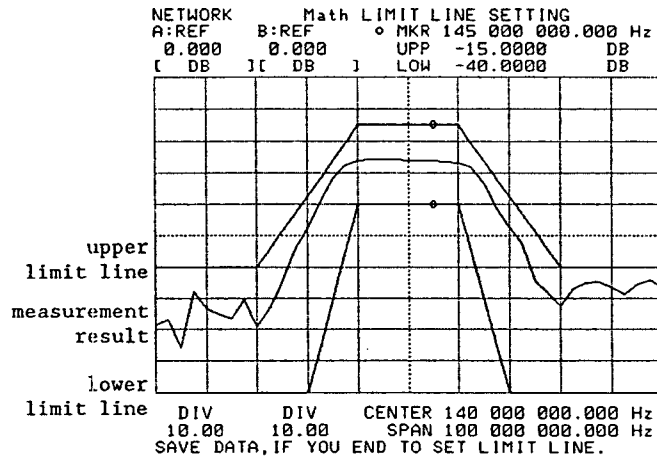

Figure 5. Limit Lines
- 3) Execute Program 3, the HP 4195A will display the limit lines and the measurement data of the DUT as shown in Figure 5.